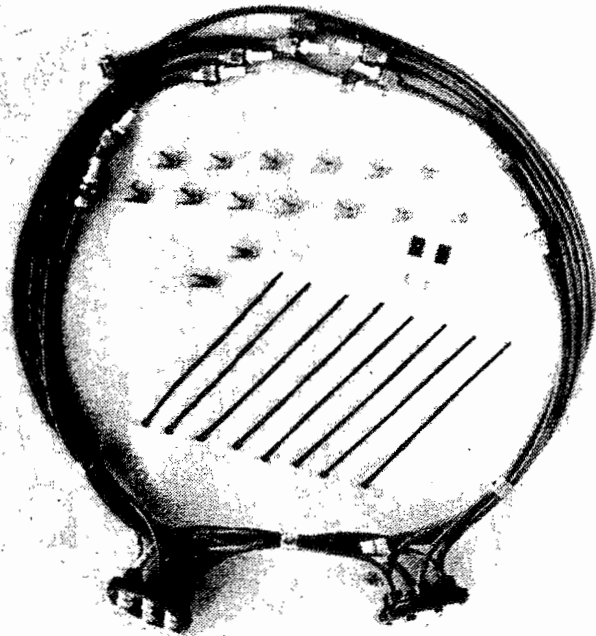

FIGURE 202: CUSTOM HYBRID HARNESS
- (2) Custom Hybrid: Magneto and spark plug ends pre-assembled, only key clamps dressed. Most clamps and ties supplied as bag parts. See Figure 202.